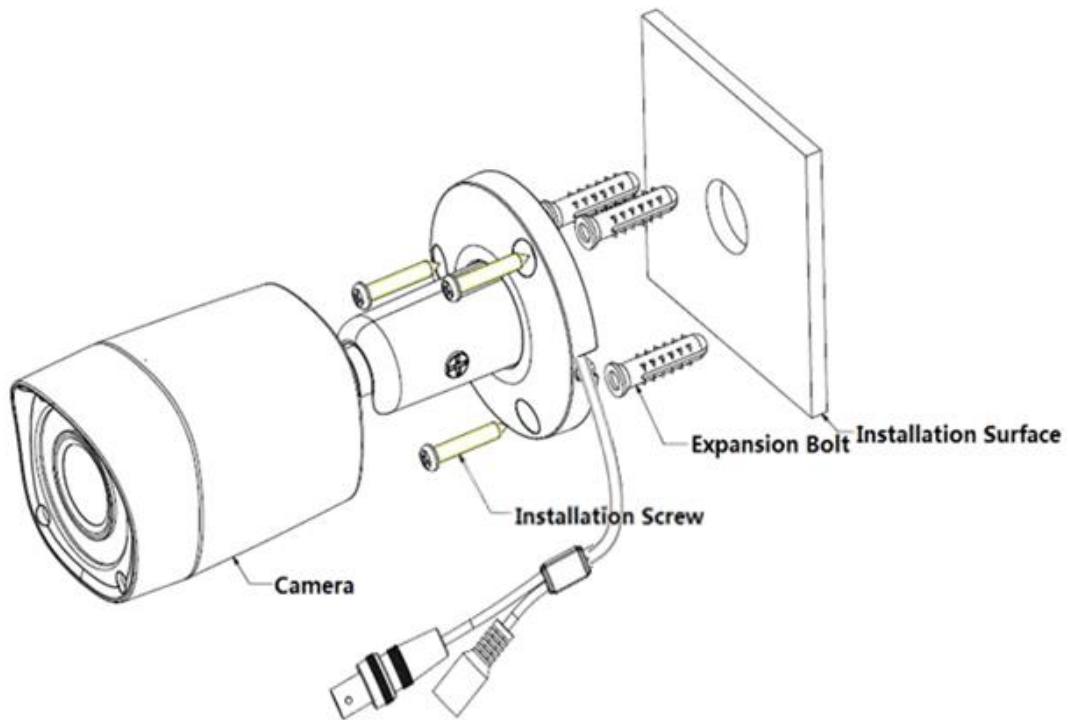

Figure 3-1
- Please install the expansion bolt if you want to install in the cement wall (Please make sure the installation holes of the expansion bolts are the same with the bracket.) Then you can install the bracket. See Figure 3-1.